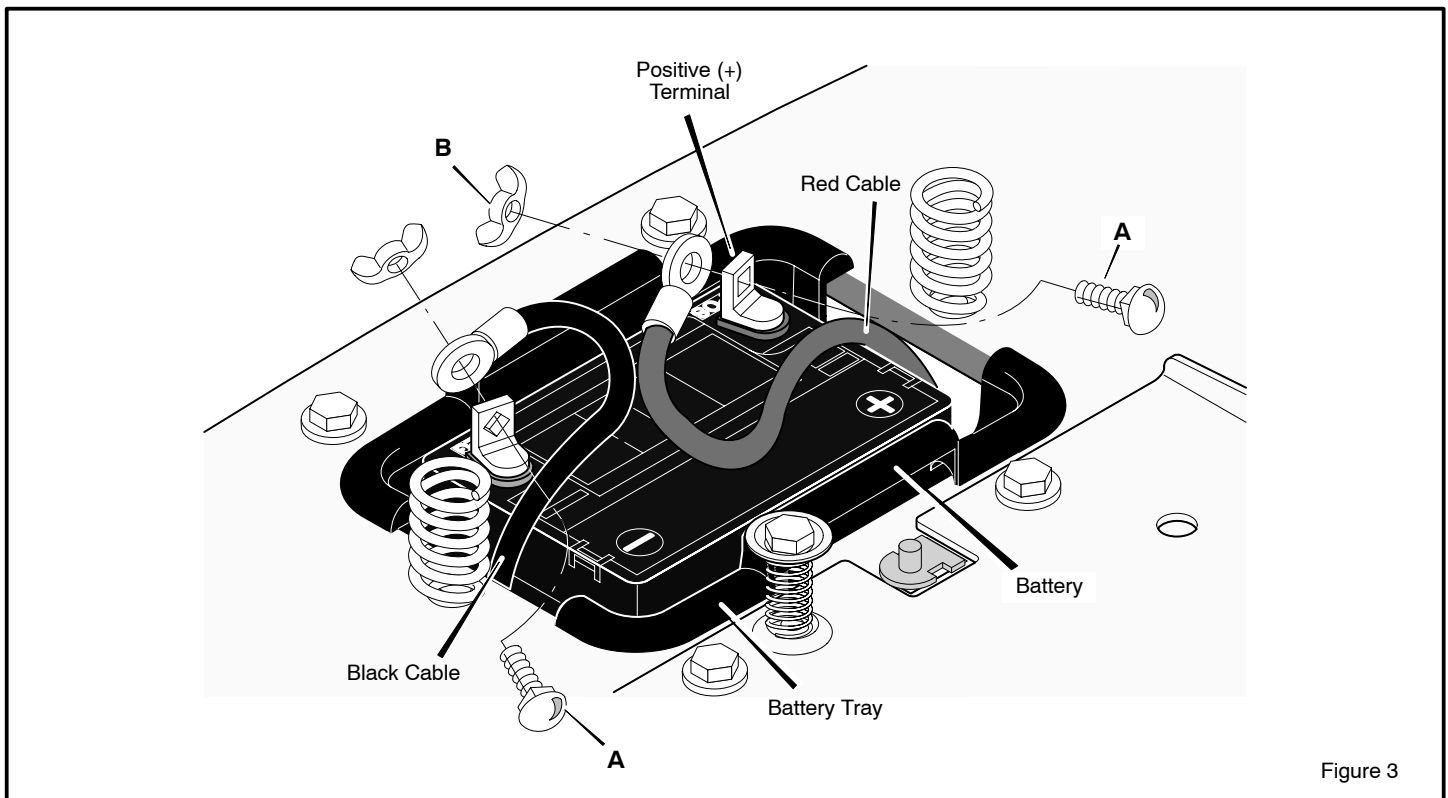

Figure 3
1. Check the top of the battery for the location of the **battery date** (Figure 3).
2. Fasten the **red cable** to the **positive (+) terminal** with the fasteners as shown (Figure 3).